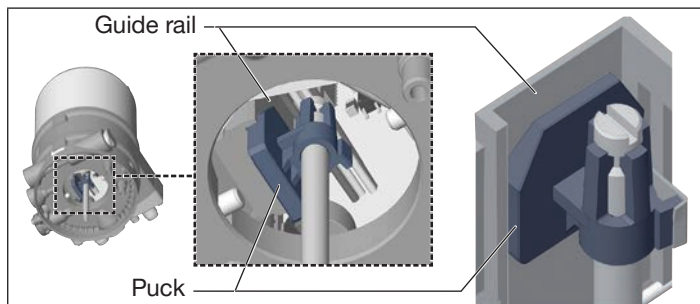

Fig. 9: Aligning the puck
2. Align the puck of the actuator with the guide rail of Type 8692/8693 (see "Fig. 9")